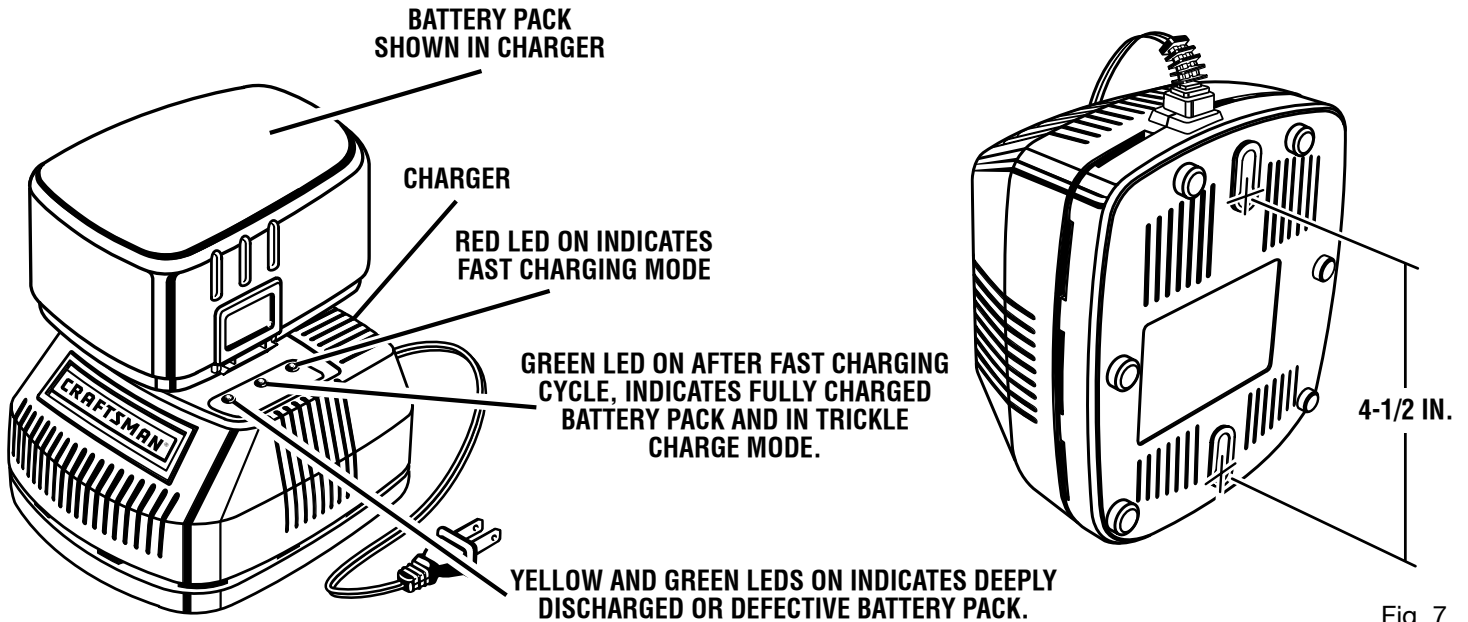

Fig. 7
- Place the battery pack in the charger aligning raised rib on the battery pack with the groove in the charger. *See Figure 7.*